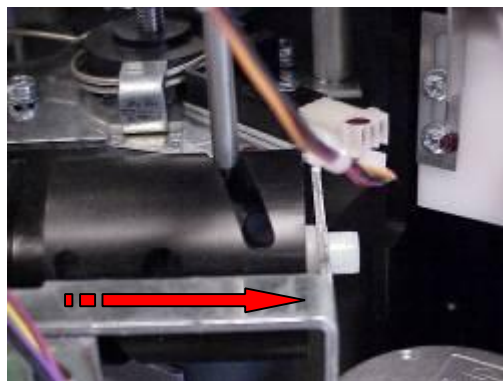

Fig. 9 Horizontal movement bush slide towards the nylon bearing
10. Slide the bush as far as possible towards the nylon bearing and tighten the 2mm hex screw as marked in fig. 9